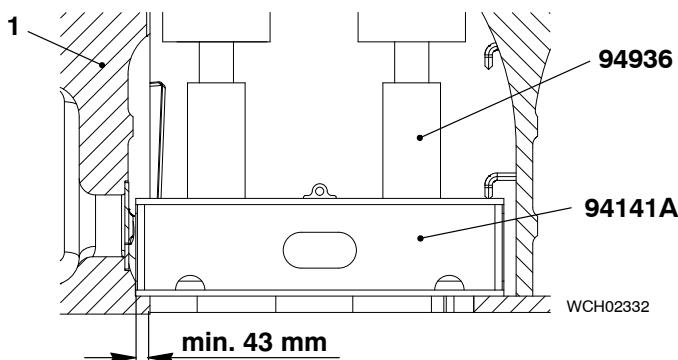

Fig. 10
- 2) Put the bracket (94141A, Fig. 10) on the two main bearing girders (1) parallel to the engine axis.